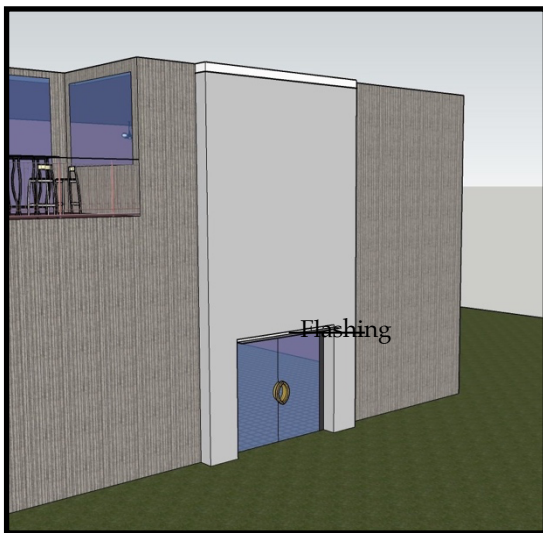

Fig 1
2. Refer to project specific drawing package for intended method of installation. – Begin installation by identifying and locating any flashing (#4) with the project and secure to the wall using supplied fasteners (Fig 1).